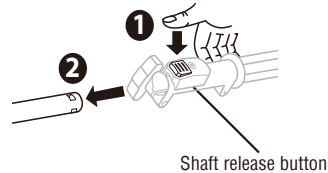

Fig.4B
3. Press the shaft release button (Fig.4B, 1) and pull the attachment shaft or extension tube (Fig.4B, 2) out from the power head shaft and remove it.